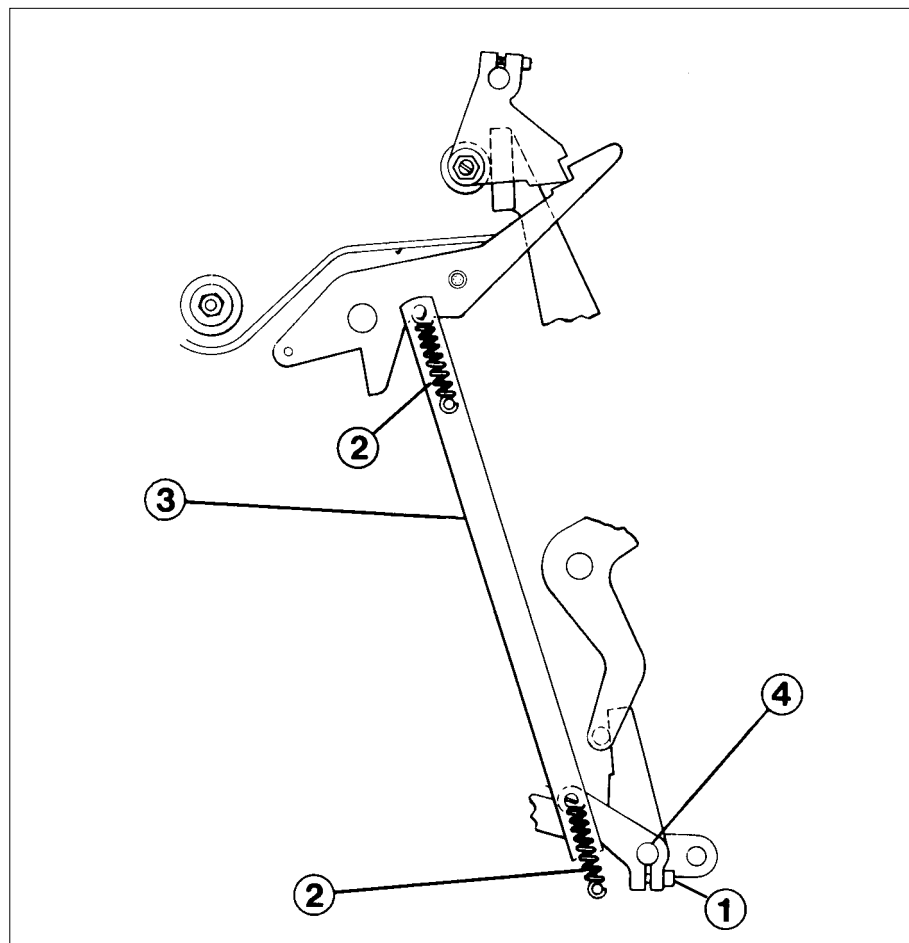

Figure 25 - Impression Cylinder Support Arm and Latch Lever
3. Loosen screw (1) (see Figure 25).
4. Remove springs (2) and master cylinder latch link (3).
5. Install tool (P/N 191551) on the impression cylinder shaft (4) and using the locking knob, draw the impression cylinder to the operator-side of the machine. Loosen locking knob on P/N 191551 tool.